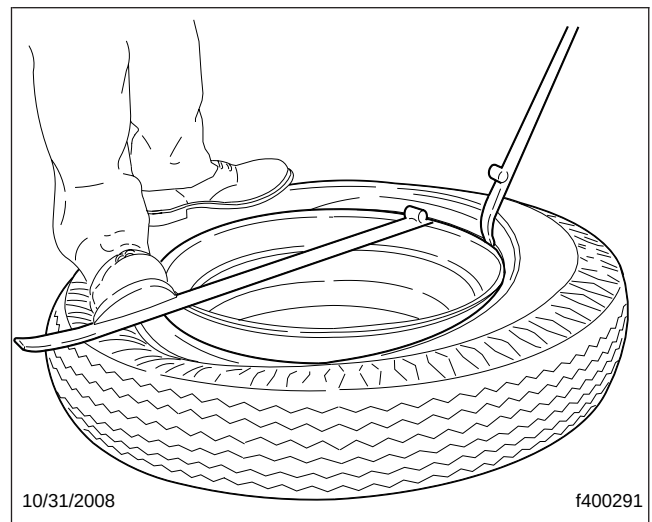

Fig. 2, Forcing First Bead From Wheel
- 3.3 Insert the curved end of two tire tools between the bead and the wheel, just to one side of the tire valve. See Fig. 2.